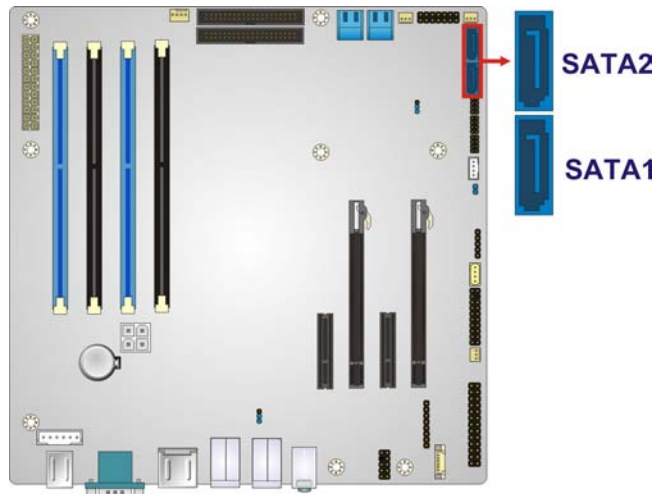

Figure 3-18: SATA 3Gb/s Drive Connector Locations
- CN Location: See **Figure 3-18**